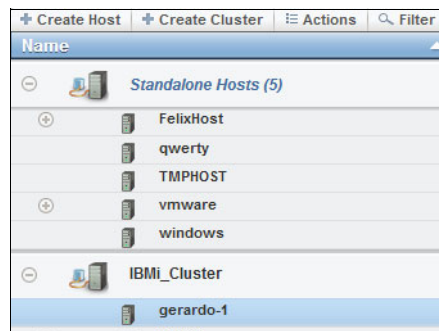

Figure 11-75 Hosts window showing the created cluster
5. Repeat the previous actions to add all hosts that are required in the cluster. After you complete all the hosts, assigned hosts will be listed under the cluster in the Hosts window, as shown in Figure 11-75.